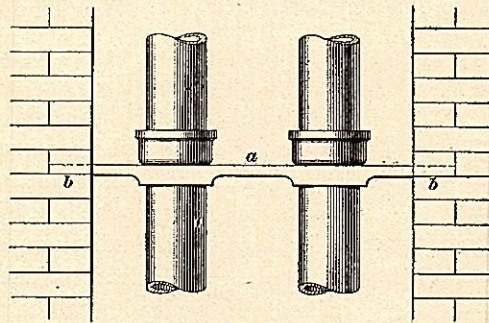

FIG. 36
**54.** If the pipes stand in a chase, or groove, in the wall, they may be fastened by means of clamps, or **pipe rests**, *a*, which are secured in notches *b, b* cut in the wall, as shown in Fig. 36.